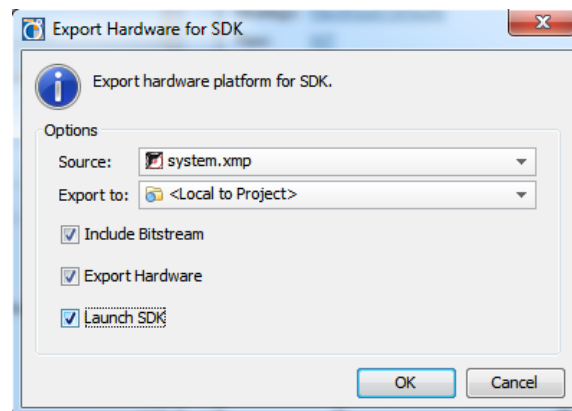

Figure 6 – Export Options
6. Use the default selection for each of the options except the **Launch SDK** option. Verify that the **Launch SDK** option is selected as seen in Figure 6.